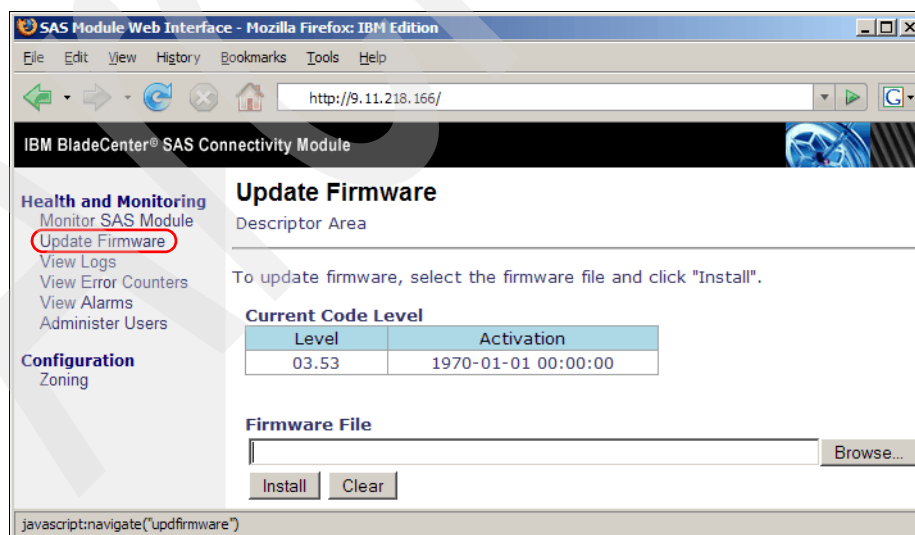

Figure 18-8 SAS Connectivity Module - Update Firmware
2. In the Monitor Module window, click **Update Firmware**. The Update Firmware window opens, as shown in Figure 18-8. The current firmware level is also displayed.